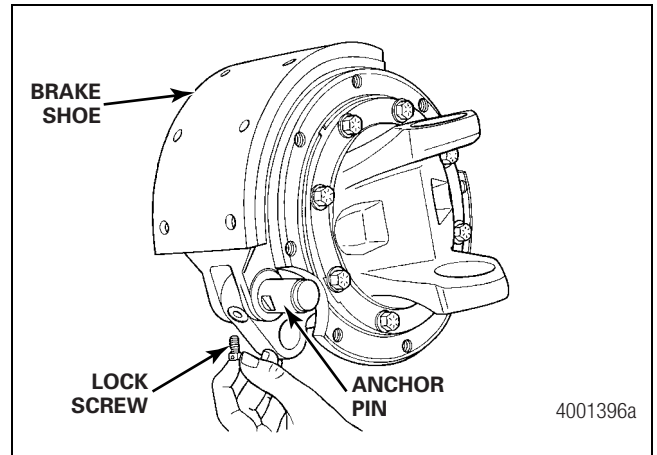

Figure 3.26
9. Use a brass drift and a punch to remove the anchor pin from the bearing cage. Remove the brake shoes. Figure 3.26.